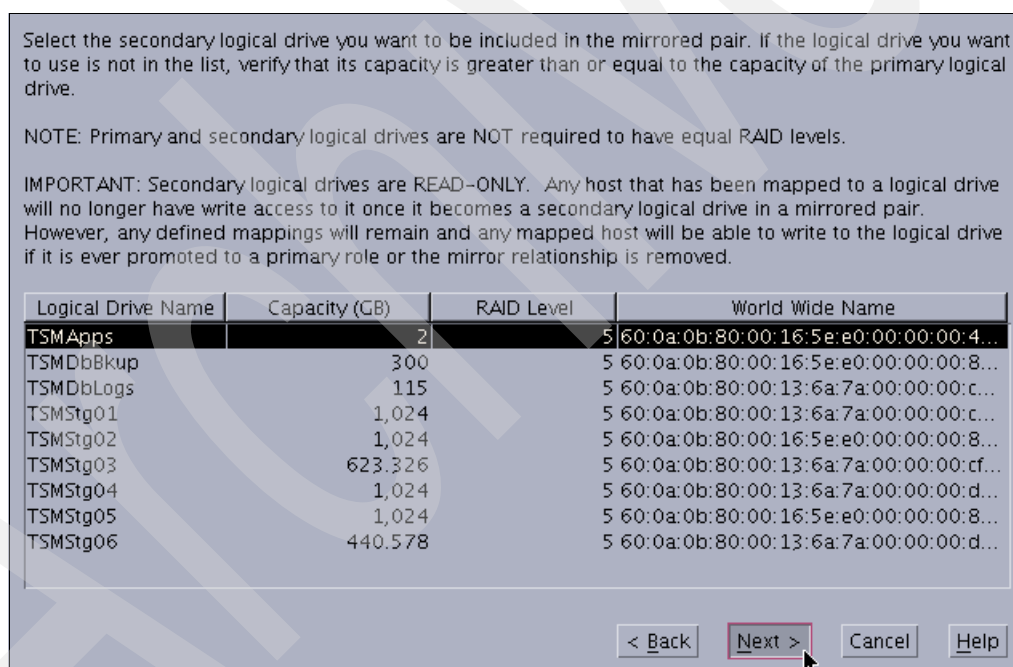

Figure 13-29 Create Remote Mirror: Select secondary logical drive
- The next window displayed lets you select a secondary logical drive for the Remote Mirrored pair (Figure 13-29).